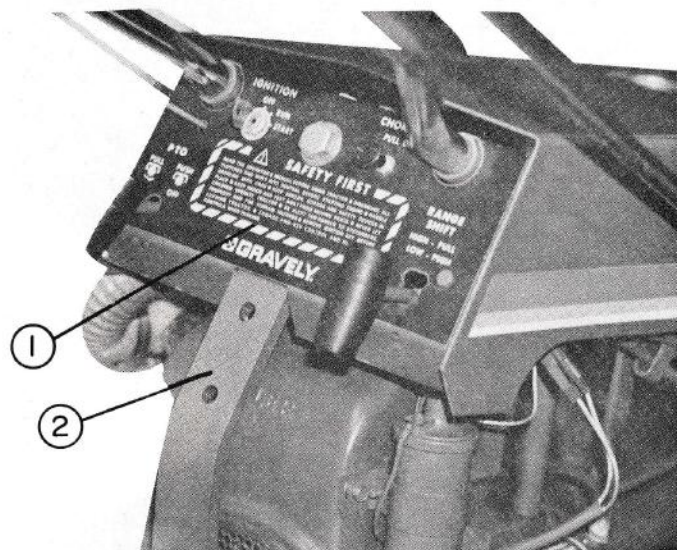

Fig. 1
1. Align the holes of the instruction plate and the brake handle support with the two holes in the rear hitch of the tractor and secure with two bolts, $\frac{1}{2}$ -13 x $1\frac{3}{4}$, and nuts, $\frac{1}{2}$ -13. See figs. 1 & 2.
If the rear hitch does not have predrilled holes, as shown in fig. 1, place the instruction plate against the instrument panel of the tractor with the holes centered on the rear hitch. Mark the holes with a sharp instrument. Drill the holes using a $17/32$ " (13.49 mm) drill bit.